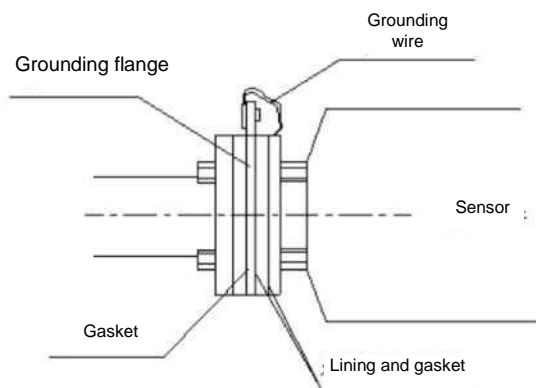

Figure 17: Sensor connection in a non-conductive pipe
- For non-conductive pipes, a grounding flange shall be installed between the flanges at both ends of the sensor and the pipe flange. See Figure 17.